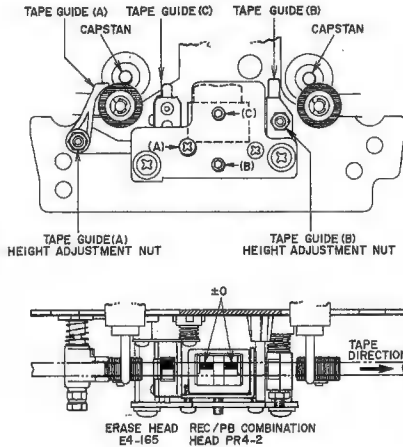

Fig. 11
(Refer to Figs. 11, 12)
- 2) At playback mode, using the erase head guide (C) shown in Fig. 11 as standard for height, adjust tape guide (A) and tape guide (B) height with tape guide height adjustment nuts so that the tape runs smoothly and does not catch on the tape guides.
(Refer to Fig. 11)
- 2) As shown in Fig. 11 adjust head height with screws (A), (B) and (C) until the upper edge of the tape is the same height as the upper edge of the left channel REC/PB Combination head core.
3. AZIMUTH ALIGNMENT ADJUSTMENT OF RECORDING/PLAYBACK COMBINATION HEAD (Refer to Fig. 11)